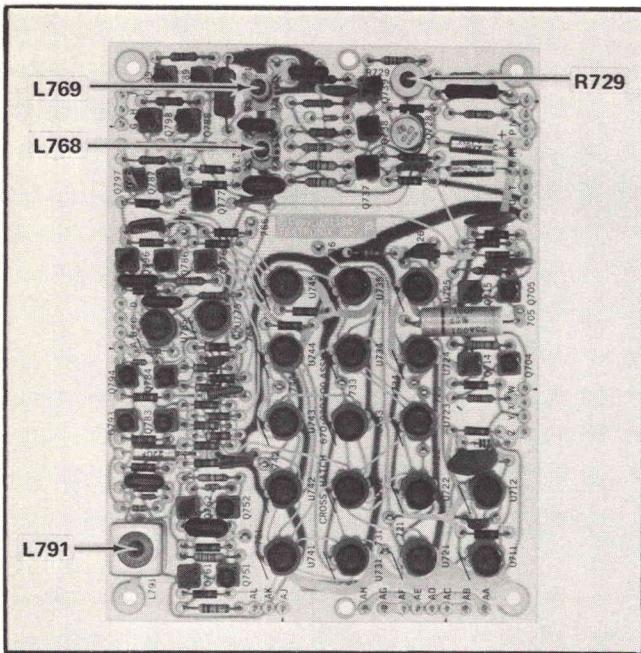

Fig. 5-46. Crosshatch board adjustment locations.
j. ADJUST—R729 (see Fig. 5-46) until the top of the bottom display just aligns with the sync tip of the upper display.
h. ADJUST—L791 (see Fig. 5-46) until the time between the seventeenth pulse and the trailing edge of the setup (see part g) matches the time between the leading edge of setup and the peak of the first vertical line pulse (see part e).
f. ADJUST—L768 and L769 (see Fig. 5-46) for the best square corner on the horizontal line pulse.